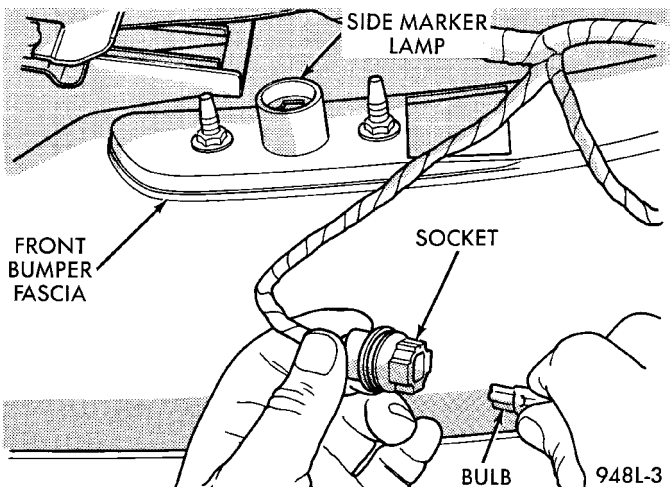

Fig. 4 Front Side Marker
- (1) Reach behind front bumper fascia forward of front wheel.
- (2) Remove socket from side marker lamp.
- (3) Pull bulb from socket (Fig. 4).